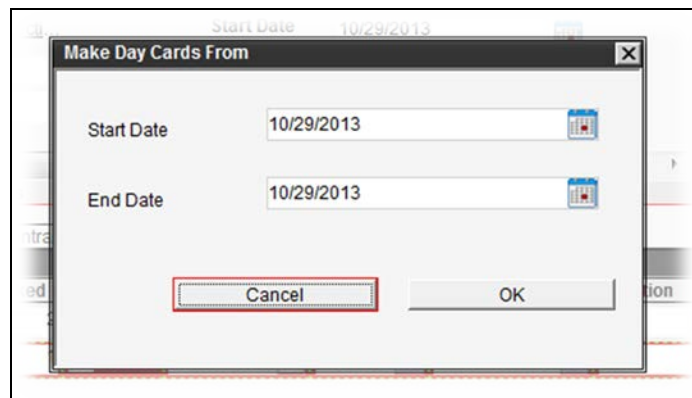

Figure 4-26. Work Order Make Day Cards From Dialog Box
Make Daycards 	This command prompts the user for a date range (Figure 4-26), and then creates Day Cards for all assigned LEM resources and Accomplishments for those dates.
2. Specify the effective dates in the Make Day Cards From dialog box (Figure 4-26), using the calendar buttons as needed.